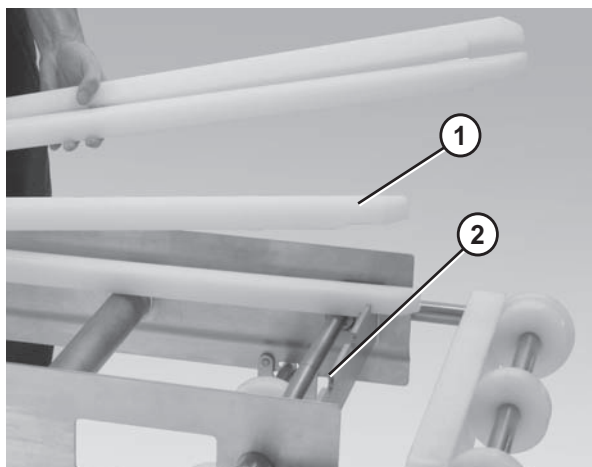

Figure 28
1. Position the wear strips (**Figure 28, item 1**) on the frame.
2. Make sure the wear strips are situated securely in the frame slots (**Figure 28, item 2**).